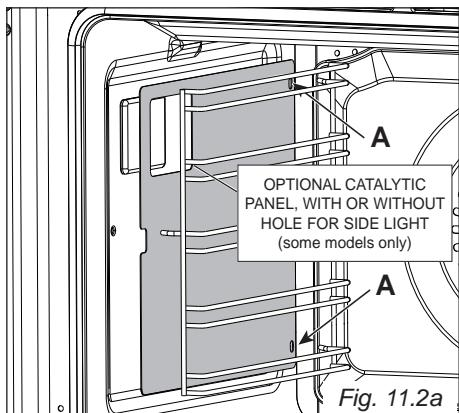

Fig. 11.2a
- Slide the rear prongs of the side rack into the holes "A" at the rear of the oven (fig. 11.2a).